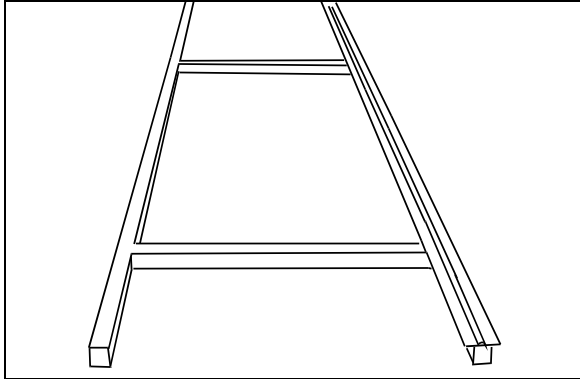

FIGURE 40: SUPPORT RAIL INSTALLATION 06501
2. Set the support rail (Prévost #29261) down (Figure 40). Using shims, adjust its level to stabilize it.
1. Set the support rail (Prevost #29261) down (Figure 40). Using shims, adjust its level to stabilize it. Use previous reference marks to ensure proper positioning.